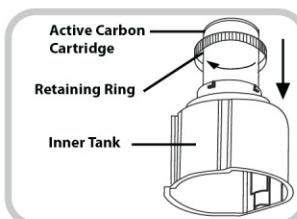

Fig.8
3. To Install the Active Carbon Filter turn the Inner Tank upside down. Make sure the Large O Ring sits on top of the filter and place it on the Inner Tank. Slide down the Retaining Ring and align the pegs with the openings of the Inner Tank base. Turn it clockwise to secure the filter. (Fig. 8).